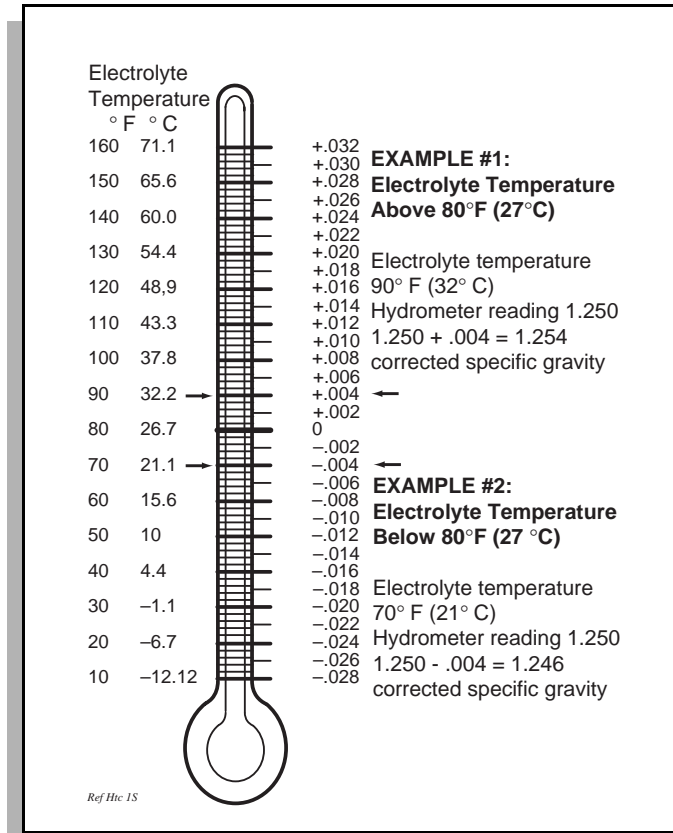

Fig. 32 Hydrometer Temperature Correction
4. Add or subtract four points (.004) to the reading for every 10° F (-12°C) the electrolyte temperature is above or below 80° F (27° C). Adjust the reading to conform with the electrolyte temperature, e.g., if the reading indicates a specific gravity of 1.250 and the electrolyte temperature is 90° F (32° C), **add** four points (.004) to the 1.250 which gives a corrected reading of 1.254. Similarly if the temperature was 70° F (21° C), **subtract** four points (.004) from the 1.250 to give a corrected reading of 1.246 (Ref. Fig. 32 on page 25).